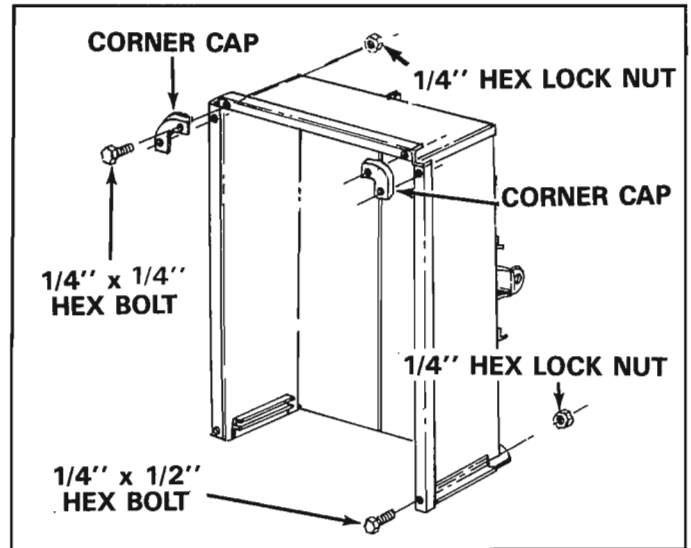

FIGURE 8
- Assemble two front top corner caps and two bolts in top flanges through tailgate reinforcement bracket using 1/4" x 1/2" hex bolts and 1/4" hex lock nuts. See figure 8. Tighten all bolts.